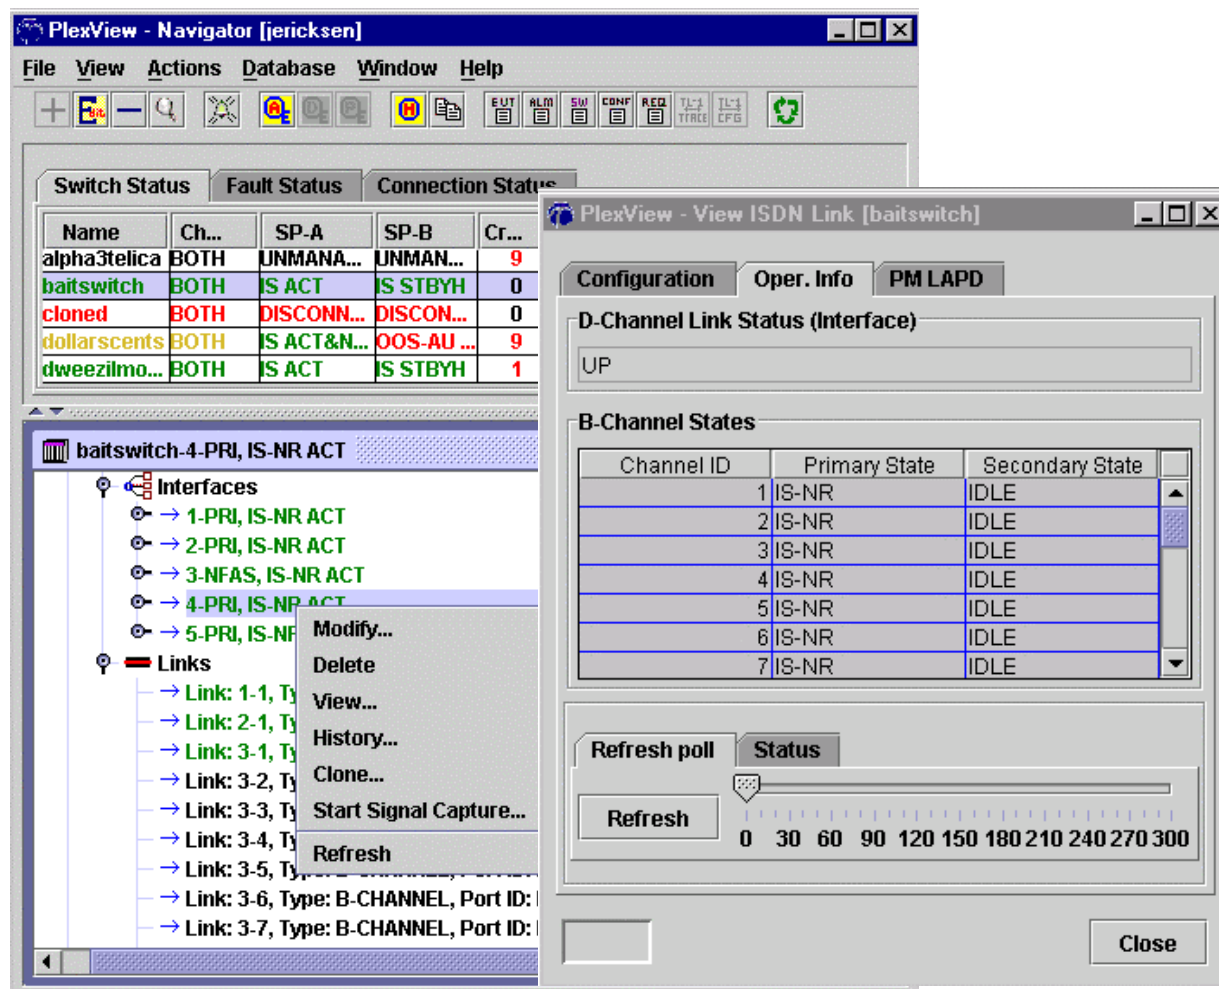

Figure 1. State of ISDN B Channels
5. Retrieve the current state of specified ISDN B channels on a link. Double-click the switch, *ISDN* and *Links*. Right-click the *link*, click *View* and then select *Oper. Info* tab at the top and click *Refresh* for latest information. See Figure 1.